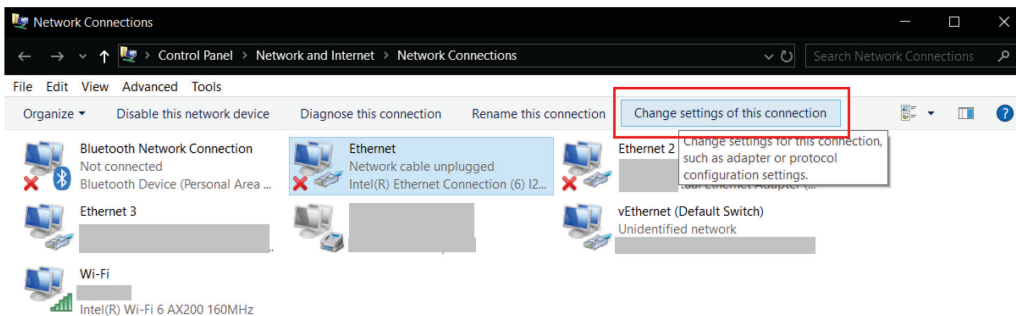

Figure 8. Changing the settings of the ethernet connection.
4. Once the ethernet adapter is selected, click **Change Settings of this connection** (Figure 8, next page).